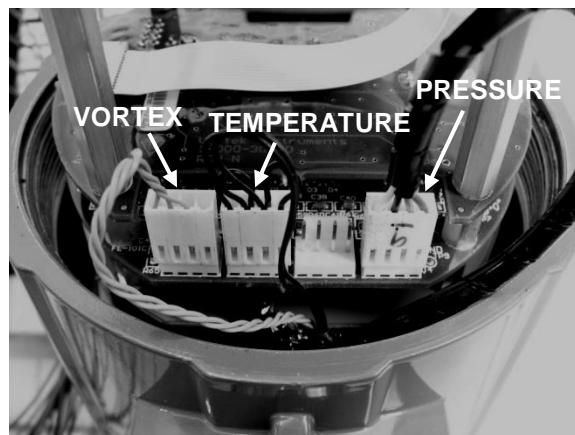

Figure 5-1. Electronics Stack Sensor Connections
3. Using ESD precautions and hazardous area precautions, remove the electronics enclosure window cover. Disconnect the vortex sensor from the electronics stack or remote feed through board. Refer to Figure 5-1 or 5-2. Measure the resistance from each outside pin to the meter ground - each should be open. Measure the resistance from the center pin to the meter ground – this should be grounded to the meter.
3. Using ESD precautions and hazardous area precautions, remove the electronics enclosure window cover. Disconnect the temperature sensor from the electronics stack or the remote feed through board. Refer to Figures 5-1 ,5-2 and 5-4. Measure the resistance across the outside pins of the temperature sensor connector. It should read approximately 1080 ohms at room temperature (higher resistance at higher temperatures). Measure the resistance across the inside pins, they should read the same.
3. Locate the sensor harnesses which come up from the neck of the flow meter and attaches to the circuit boards. Make note of the location of each sensor connection. Refer to figures 5-1 and 5-2. The vortex sensor connection is on the left, the temperature sensor connection (if present) is second from the left, and the pressure sensor connection (if present) is the right most connector. Use small pliers to pull the sensor wiring connectors off of the circuit boards.